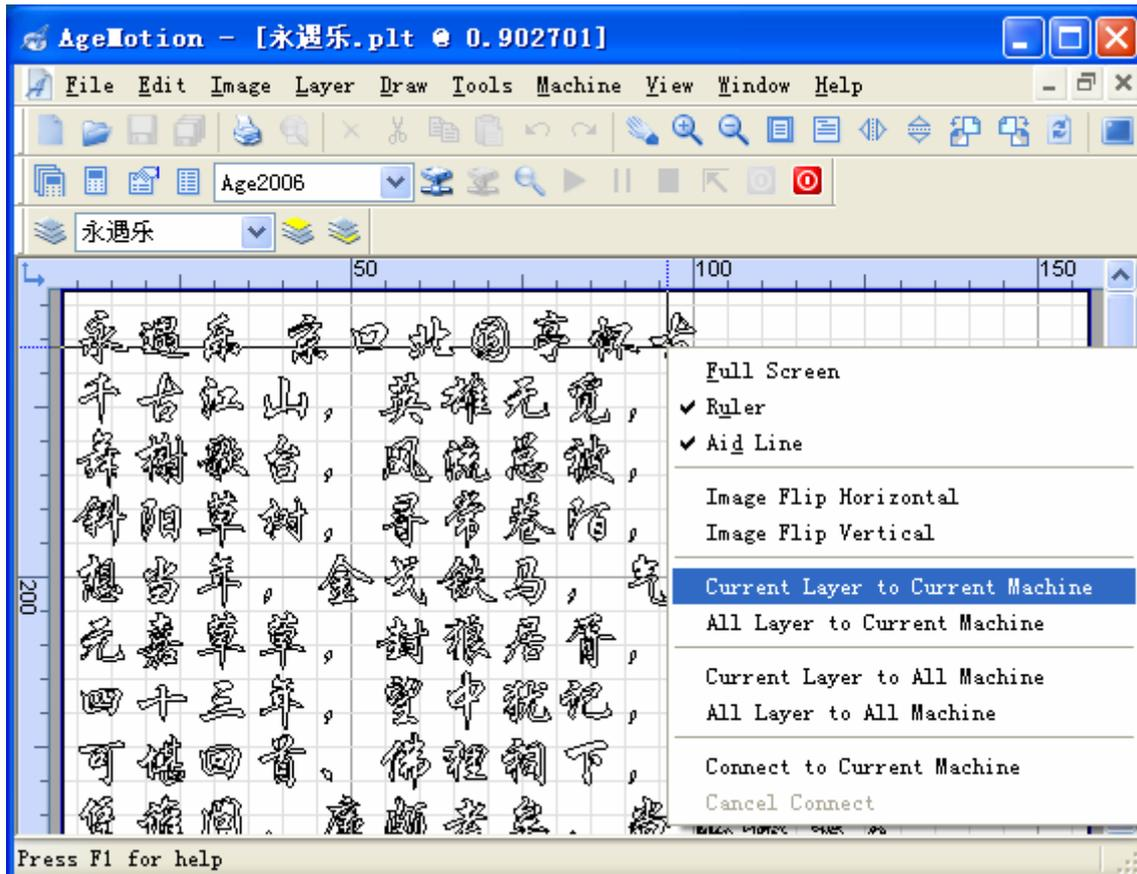

Figure 6-22 Add Task
5. Click the mouse right button in the view, choose the current layer to current machine option in the pop menu to add a new mission (see Figure 6-22), if the graph file has many layers, please choose the all layers to current machine option to add all the missions.